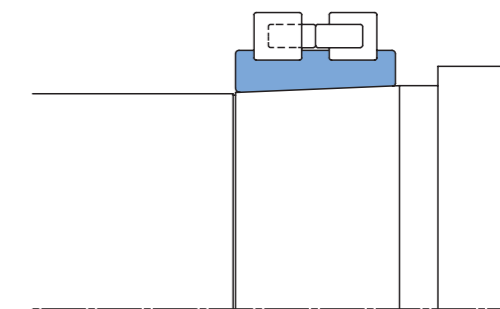

Figure 9.8 Inner Sub-unit Temporarily Tightening
- Lightly place the inner sub-unit onto the shaft taper (Figure 9.8).